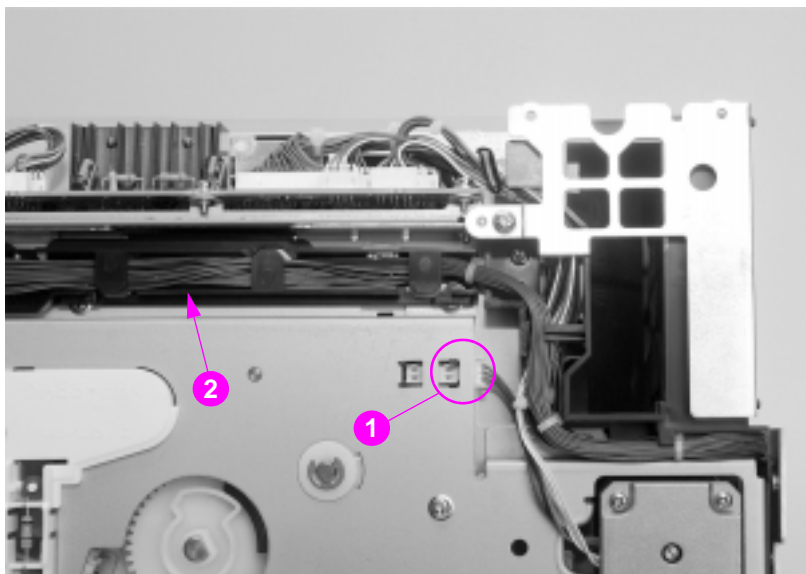

Figure 6-36 Carousel drive assembly removal and replacement (1 of 2)
- 6 Disconnect the sensor as shown in Figure 6-36 (callout 1).